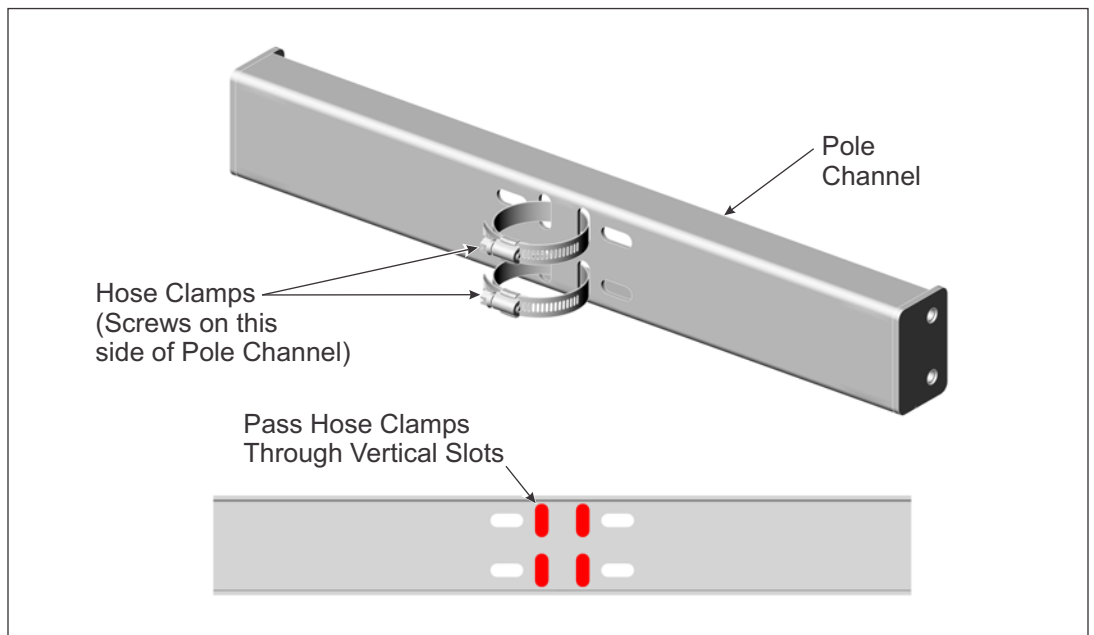

Figure 1-1: Installing Hose Clamps on Pole Channel
- A. Unscrew the two Hose Clamps and pass the loose ends through the two vertical slots of the Pole Channel, positioning the screw housing on the backside of the Pole Channel. Secure the loose end by screwing them back into their screw housing. (See Figure 1-1)